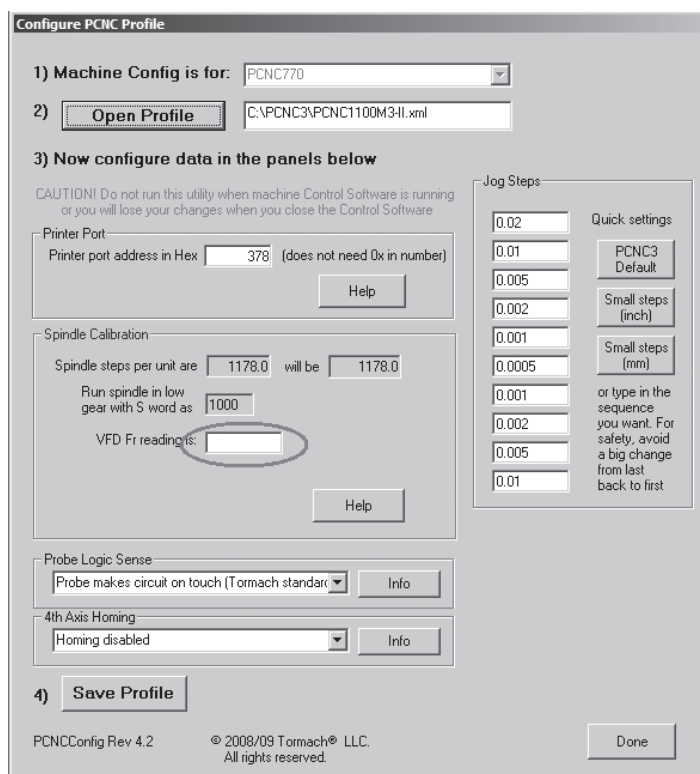

Figure 9.11: The measured frequency.
- Next, under the “Speed Calibration” heading enter the frequency you recorded earlier (figure 9.11). The software will display a new “Spindle steps per unit” value.